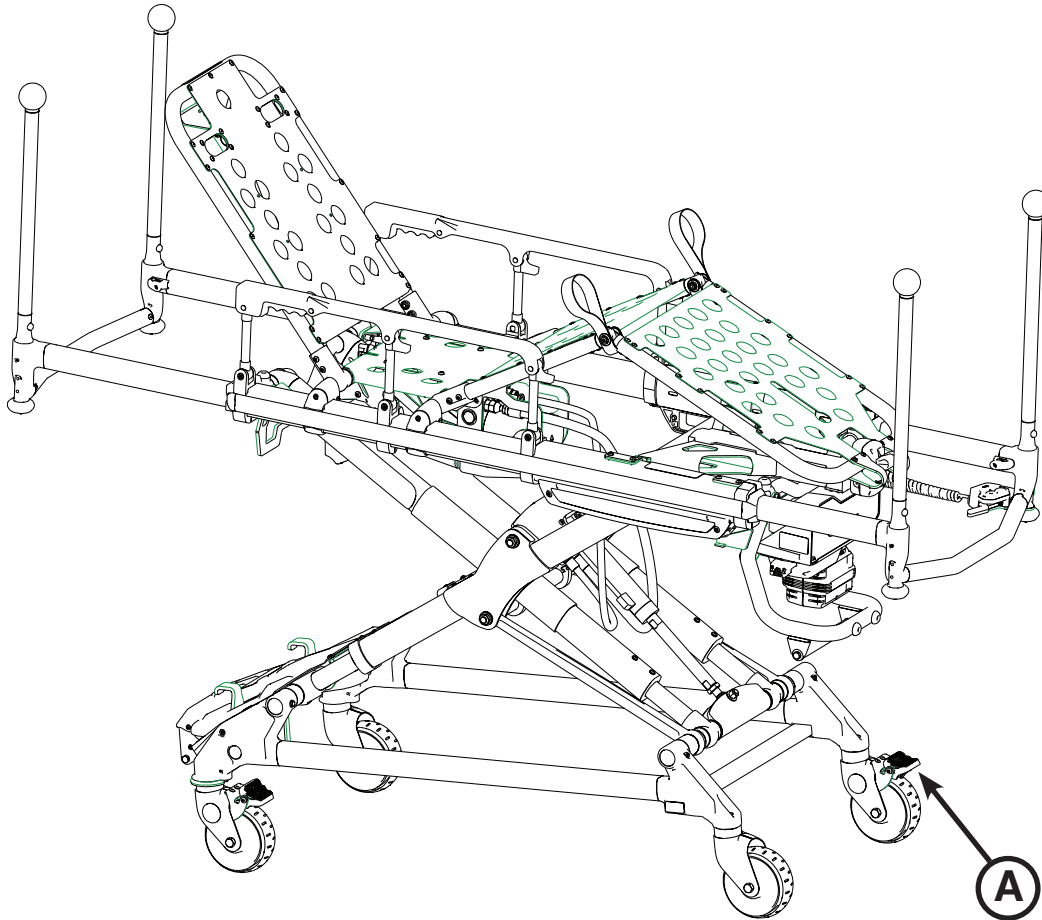

Figure 24
To activate the optional wheel locks, press fully down on the pedal (A) as shown in Figure 24 until it stops and is resting firmly against the surface of the wheel.